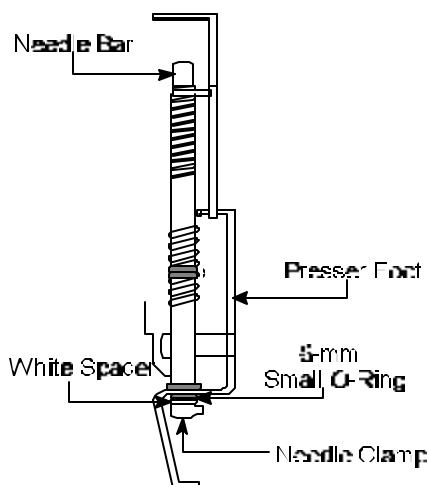

Figure 16
28. While holding Needle Bar and Presser Foot together **slide** 6 mm O-ring, and white spacer onto Needle Bar. See Figure 16.
29. **Insert** Needle Clamp onto Needle Bar and align set screw with bottom hole then snug set screw. See Figure 16.